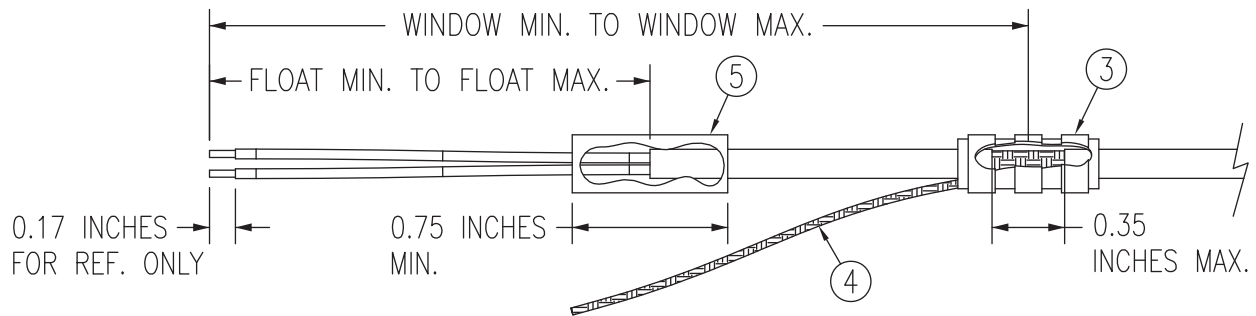

Figure 6-3 Shield Termination Technique Method A.1
- Connect a flat braid (item 4, Figure 6-3) to the shield exposed through the window of the prepared cable assembly from the preceding step. The flat braid should exit the front of the termination and towards the connector. The flat braid should not exit the rear of the termination and loop back towards the connector. Make the connection between the flat braid and the prepared cable assembly using an approved shield termination technique.
Slide a solder sleeve (item 3, Figure 6-3) onto the prepared cable assembly and connect the flat braid to the shield using a heat gun approved for use with solder sleeves. Using a solder sleeve with a pre-installed flat braid may ease the assembly. The chosen size of solder sleeve must accommodate both the number of conductors present in the cable and the flat braid.
The preferred solder sleeve is the Raychem S03 Series with a thermochromic temperature indicator (S03-02-R-9035-100, S03-03-R-9035-100, S03-04-R-9035-100). These solder sleeves come with a pre-installed braid and effectively take the place of items 3 and 4 in Figure 6-3. Reference the Raychem installation procedure, RCPS 100-70, for detailed instructions. Raychem recommends the following heating tools:
Solder a flat braid to the shield exposed through the window of the prepared cable assembly. Ensure a solid electrical connection through the use of acceptable soldering practices. Use care to avoid applying excessive heat that burns through the insulation of the center conductor(s) and shorts the shield to the signal wire(s). Slide a minimum of 0.75 inch of Teflon heat shrink tubing (item 3, Figure 6-3) onto the prepared wire assembly and shrink using a heat gun. The chosen size of heat shrink tubing must accommodate both the number of conductors present in the cable and the flat braid.
Cut the jacket and the shield off at the same point so that no shield is exposed. Slide a minimum of 0.75 inch of Teflon heat shrink tubing (item 5, Figure 6-3) onto the cable and use a heat gun to shrink the tubing. The chosen size of heat shrink tubing must accommodate the number of conductors present in the cable.
Leave a maximum 0.35 inch of shield extending past the jacket. Fold this section of shield back over the jacket. Slide a solder sleeve (item 5, Figure 6-3) over the end of the cable and use a heat gun approved for solder sleeves to secure the connection. The chosen size of solder sleeve must accommodate the number of conductors present in the cable.